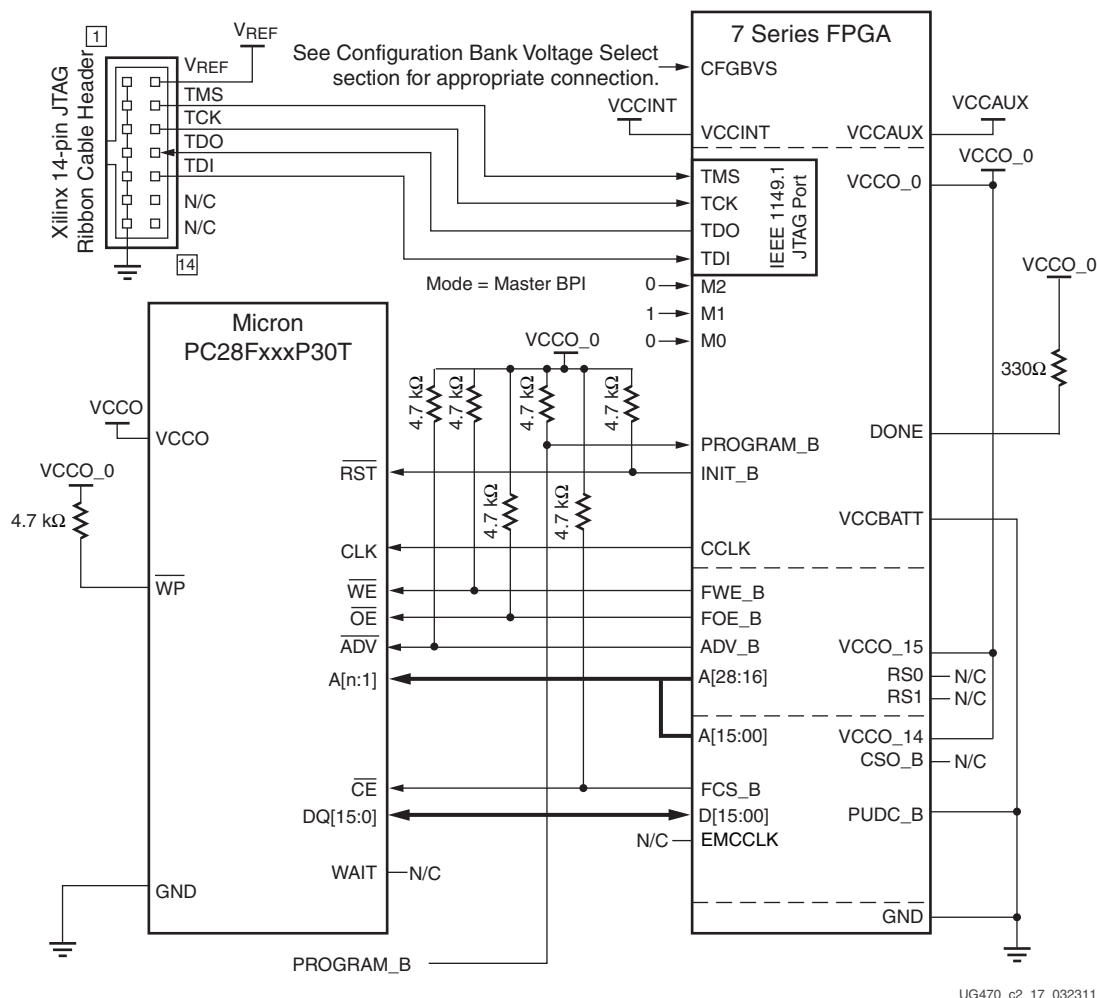

Figure 2-17: 7 Series FPGA Master BPI Configuration Interface Synchronous Read Example
The 7 series FPGA Master BPI configuration mode can optionally read a bitstream from select BPI devices that support burst, synchronous read mode as illustrated in Figure 2-17 and described in Synchronous Read Mode Support, page 60. A BPI device that supports the synchronous read mode latches a given start address from the FPGA into its internal address counter. Then given a clock, the flash outputs data from the next sequential address location to its data bus during each clock period. In the synchronous read mode, a BPI device can deliver data many times faster than through its asynchronous read interface.
The Master BPI synchronous read mode (Figure 2-17) supports the flash families in Table 2-14 with synchronous support. The FPGA starts in asynchronous read mode, and the bitstream header determines if the read mode continues asynchronously or if it switches to the faster synchronous read mode. Bitstream commands initiate the switch from asynchronous read to synchronous read if the BitGen `-g BPI_sync_mode` option is set. There are two available settings for the option: Type1 or Type2. Type1 is used to set the G18F flash family synchronous and latency bits and Type2 is used to set the P30. The switch to synchronous mode is done by the FPGA controller, which performs an asynchronous write to the BPI flash configuration register to set the device into synchronous mode and initiate a bitstream reread. To support the synchronous read mode, the FPGA CCLK output is connected to the BPI flash device, and the ADV_B FPGA signal must be connected to the Micron flash \overline{ADV} signal.
Notes relevant to Figure 2-17:
1. The 7 series FPGA synchronous read mode requires a few additional connections over the asynchronous mode. The FPGA CCLK must be connected to the flash CLK signal and the FPGA ADV_B must be tied to the flash $\overline{\text{ADV}}$ signal. This setup shown in Figure 2-17 supports the FPGA powering up initially in asynchronous mode and then switching over to synchronous mode.
5. Only the x16 data width shown in Figure 2-17 is supported by the synchronous read mode.
7. The RS[1:0] pins are not connected as shown in Figure 2-17. These output pins are only required for MultiBoot configuration. See Chapter 7, Reconfiguration and MultiBoot.
10. The FPGA mode (M[2:0]) pins are shown set to Master BPI mode (010). The implementation of a board-level option that enables the user to change the FPGA mode pins to JTAG mode (101) is recommended to enable JTAG-based debug capability for the FPGA during design. This is not required, but the JTAG mode setting ensures that there is no interference from the Master BPI configuration during debug.